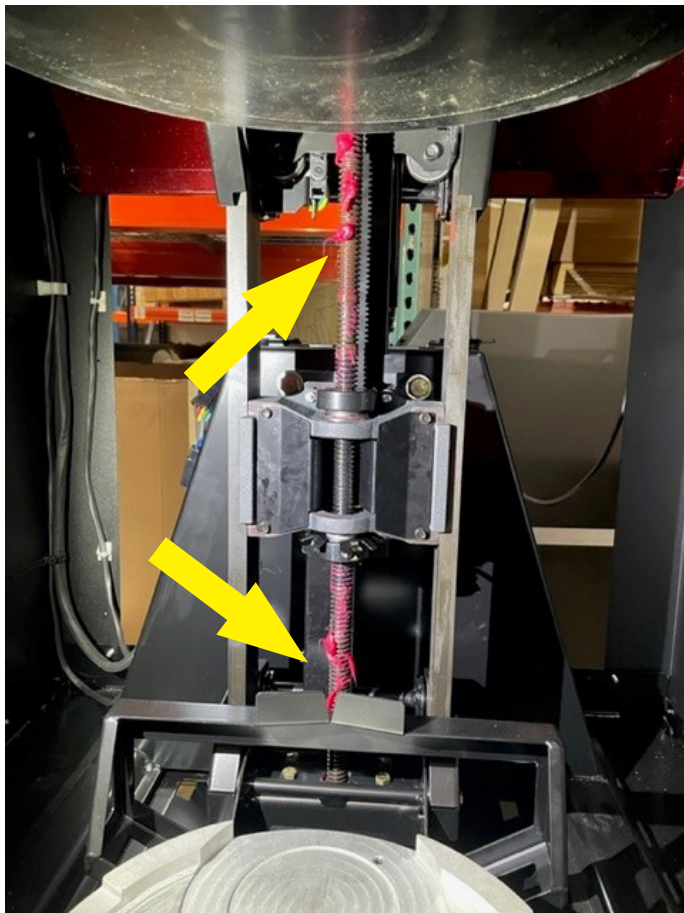
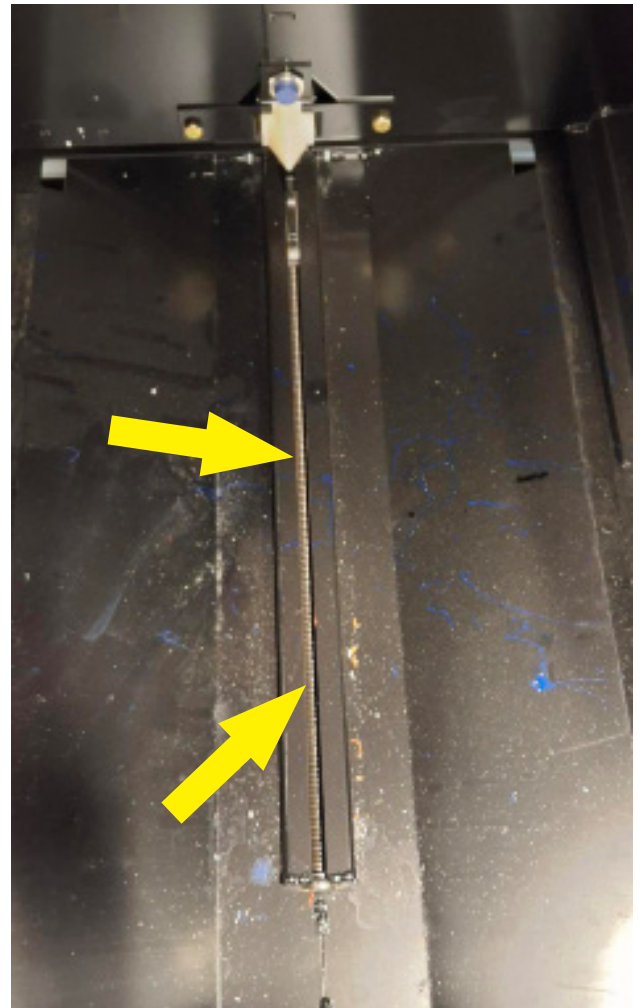

Figure 5.1
Figure 5.2
1) Clean and lubricate the clamp screw (figure 5.1) and Extractor screw (figure 5.2) every 3 months or as needed with 7784193 Synthetic Grease, or any NLGI 2 rated grease. This is available in kit #6789740. Extractor screw can be lubricated with aerosol grease as well for ease of lubrication.